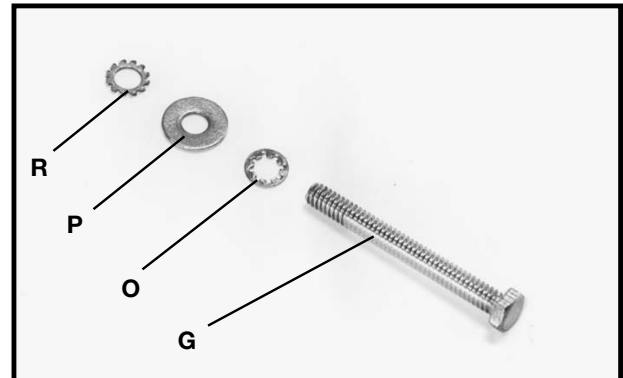

Fig. 15
4. Locate the 1/4-20 x 2-1/4 in. hex head screw (G) Fig. 15, and assemble the 1/4 in. internal tooth lockwasher (O), 1/4 in. flat washer (P) and 1/4 in. external tooth lockwasher (R) onto screw (G).